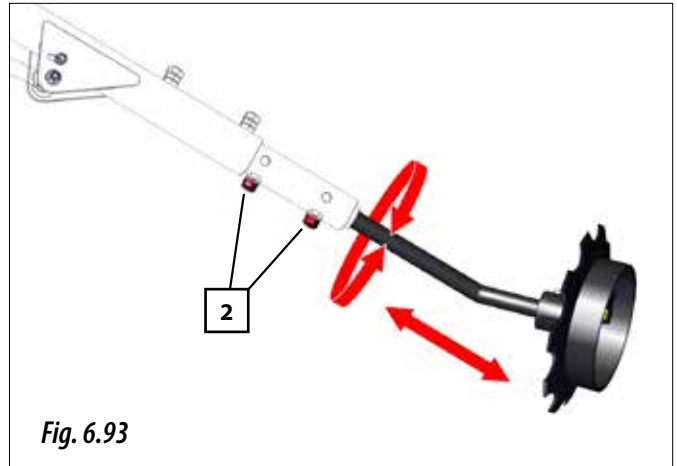

Fig. 6.93
- 2- Adjust the length of the second section of the track marker and the track marker disc's inclination by loosening the 2 nuts and bolts (2, Fig. 6.93), then retighten the bolt and the locknut.